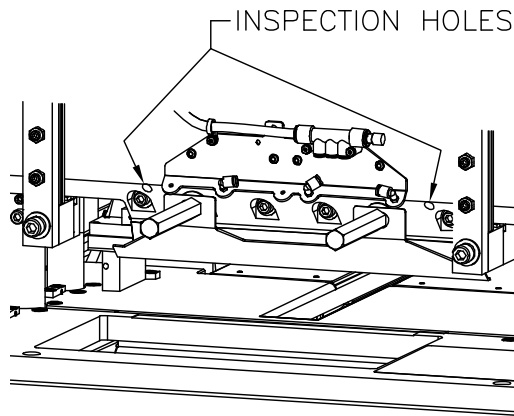

Figure 4-15. Knife Installation
- Place the knife behind the knife bar while aligning the lifter handles to the open bolt slots in the knife bar as shown in Figure 4-15.
- Lift the knife into the knife bar until the knife will not go up any further. Look into the inspection holes to make sure the knife is as far up as possible (Figure 4-15).